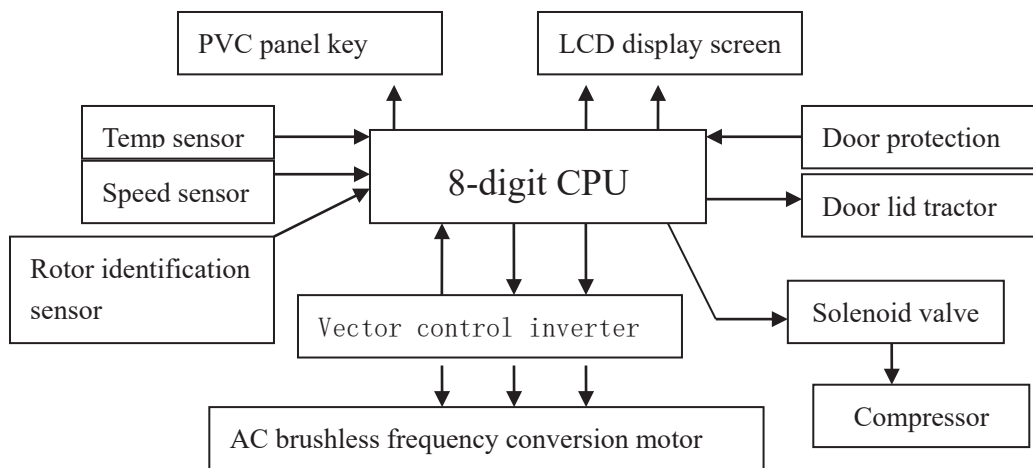

Figure 2.4-2 Electric control system for H2050R
- ◆ Open the door lid: if the centrifuge is powered on, press  key to open the door lid automatically. If the power is off, pull the emergency door release string (Figure 2.4-2). Check
The control system has adopted 8-digit CPU, and motor drive has adopted advanced VFC technology for stable speed and energy saving, with over-speed and over-temperature protection functions. Control Structure Relationship as shown in Figure 2.4-2: